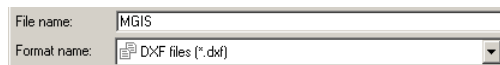

Figure B-20. Select DXF File Format
1. Click **Save as** on the toolbar. Select the DXF format from the Design group and enter the file name 'MGIS' (Figure B-20).